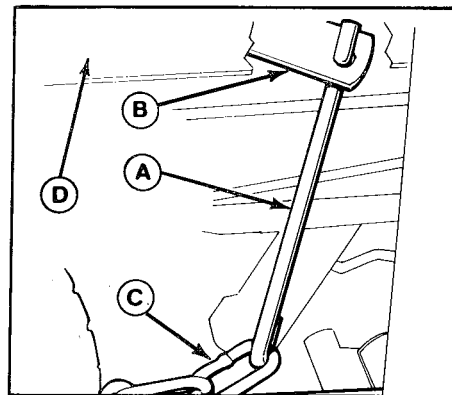

Figure 2. Installing Lift Link (Seen from right-hand side)
5. Place the lift lever fully forward so that lift arm (B, figure 2) is in lowest position.
6. Slide the mower under the tractor so that the lift chain (C, figure 2) is under the lift arm (B).
7. The lift rod (A, figure 2) must be hooked into the lift arm (B) as shown. Insert the lift rod into the hole from the left side then pivot back and down.
8. Slip the chain (C) onto the lift rod (A). If chain has four links, use only three links, by hooking second link onto lift rod.
4. Unhook the lift chain (C, figure 2) from the lift link (A). Remove the lift link (A) from the lift arm (B). Store the lift link (A) until reinstallation of mower.